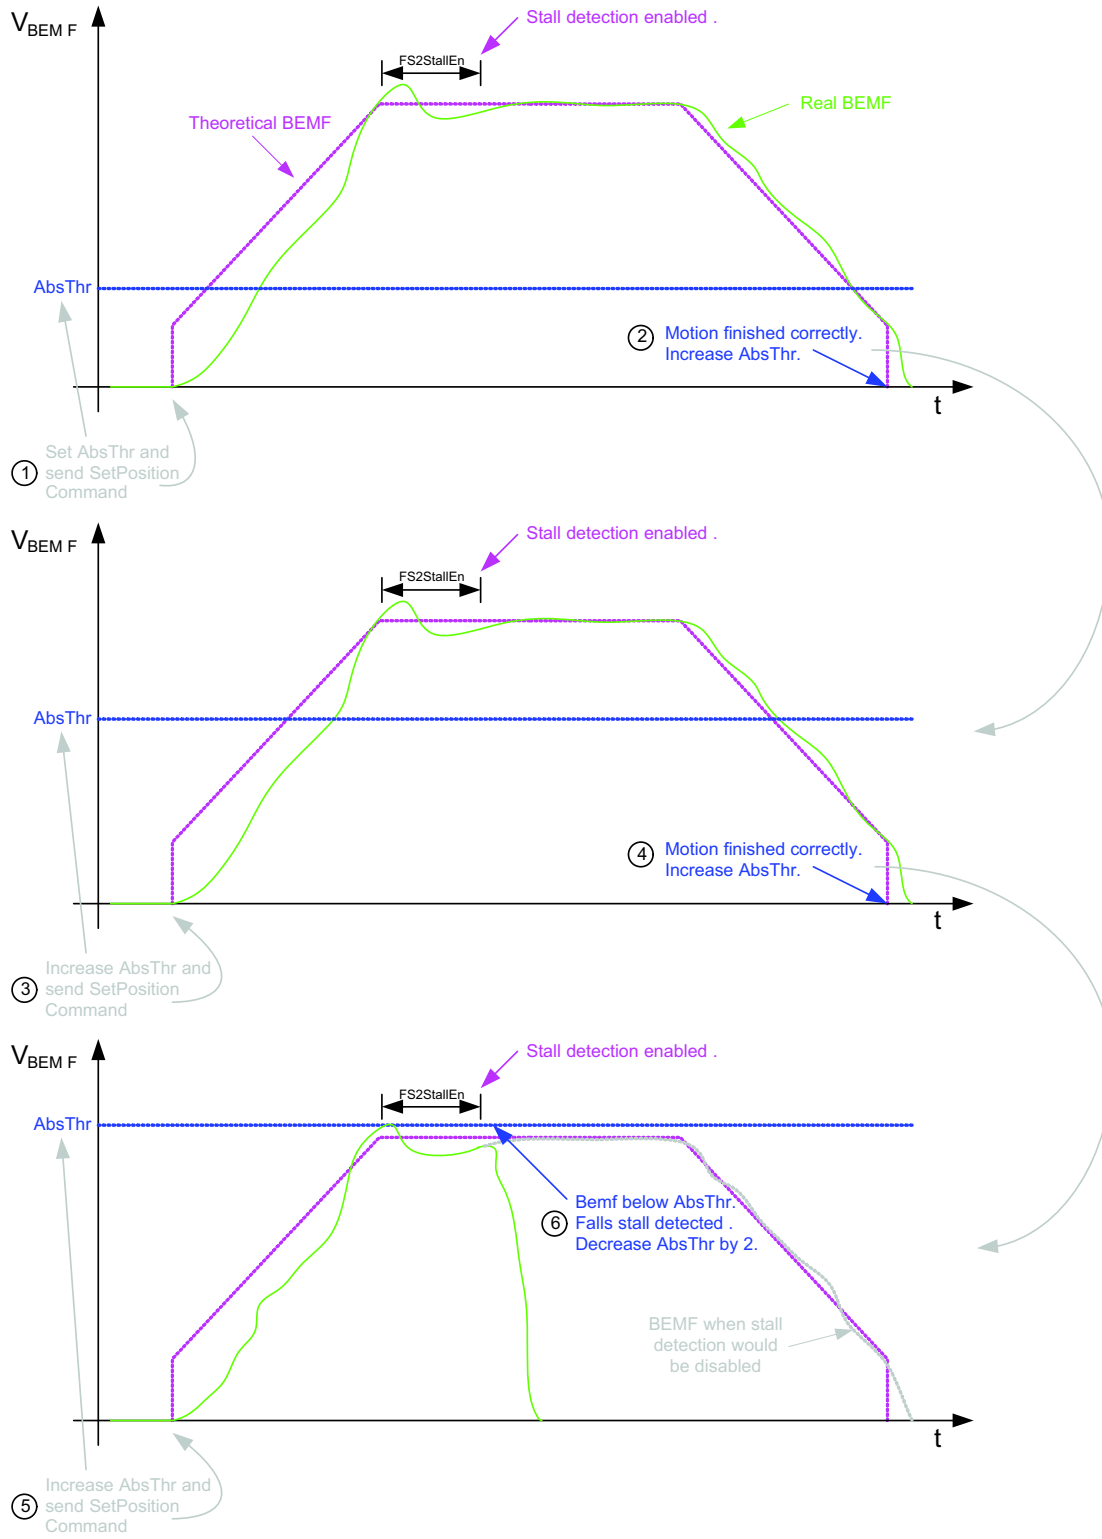

Figure 37. Define $AbsThr$ for a Non-Free Running Motor (End Positions)
Step 4b: Set the AbsThr to the lowest value (0.5 V) and do a SetPosition. If the motion was completed correctly, increase AbsThr by one and repeat the SetPosition. Do this until a stall was detected without hitting an end position (= falls stall). If falls stall is detected, the AbsThr value is set too high. Decrease the (hexadecimal) value by 2 (if possible) to have a good AbsThr setting. Figure 37 gives a better view on this.